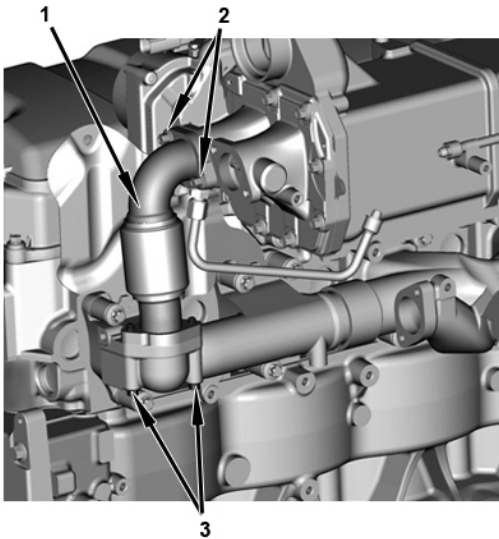

Figure 30 EGR Inlet Tube (Inside)
7. Install new EGR inlet tube (1). Install two M8 x 25 heat-resistant bolts (2) and torque to 18 lb-ft (24 N•m). Install two M8 x 65 heat-resistant bolts and torque to 18 lb-ft (24 N•m) (3) (Figure 30).